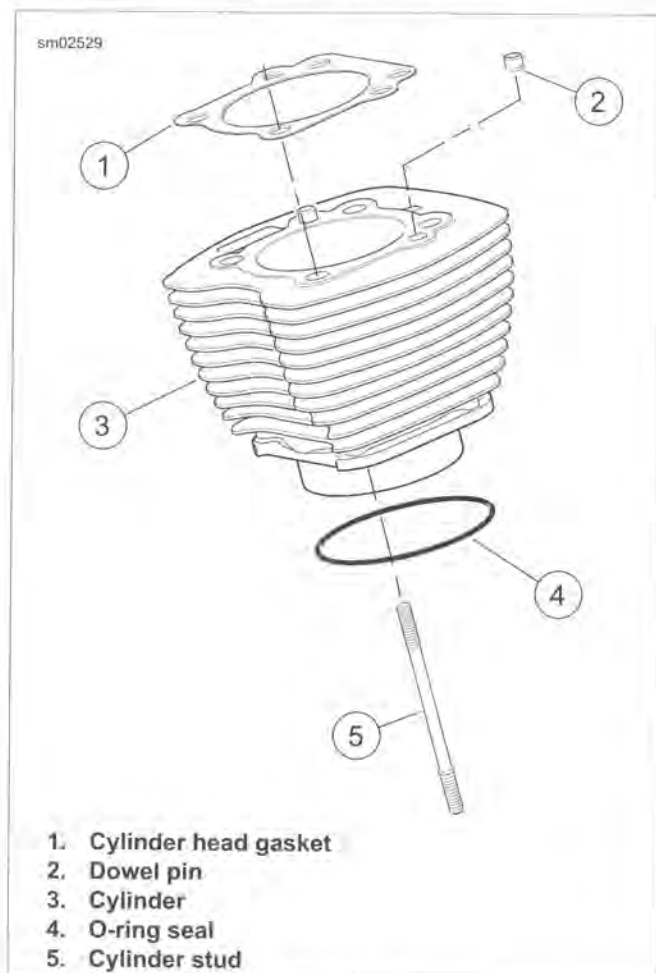

Figure 3-53. Cylinder Assembly
1. See Figure 3-53. Scrape any remaining cylinder head gasket material from the gasket surface at the top of the cylinder (3).